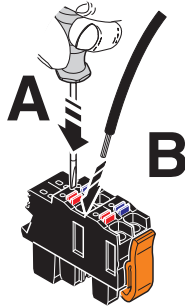

Figure 5-4 Connecting a stranded cable
- Open the spring by pressing on the spring lever with a screwdriver (A in Figure 5-4).
- Insert the cable into the terminal point (B in Figure 5-4).